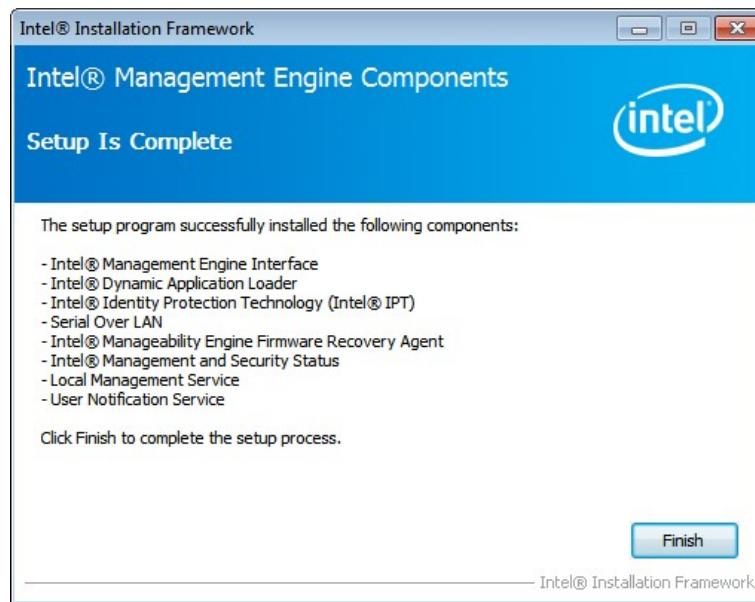

Figure 6-31: Intel® ME Driver Installation Finish Screen
Step 11: The **Finish** screen in **Figure 6-31** appears.